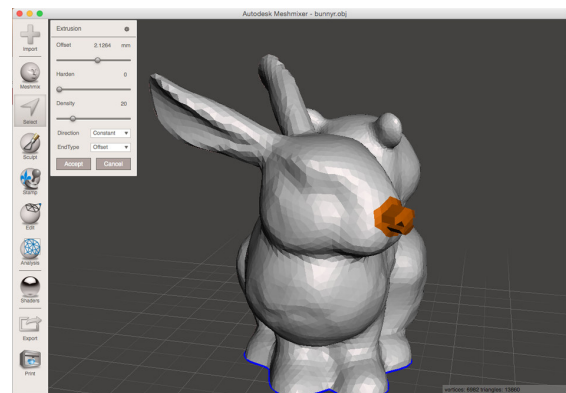

Figure 3-15 Select offers different options for detailing your model
2. From the Edit menu that pops up, select Extrude. Play around with the bars and toggles to see what happens. Then click the Cancel button (Figure 3-15).